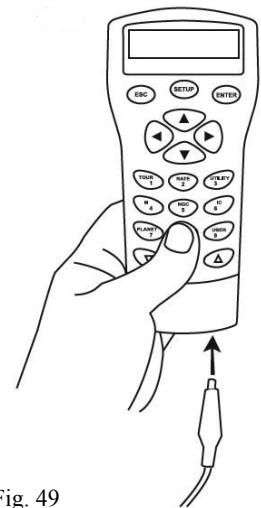

Fig. 49
2. Press and hold down the key “0” and “8” simultaneously, and plug the power cord into the hand control, as shown in **Fig. 49**.